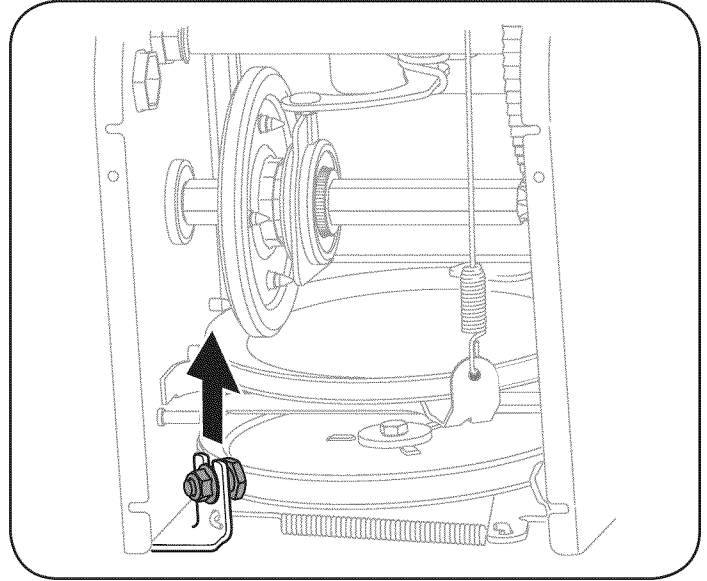

Figure 30
- Loosen and remove the shoulder screw which acts as a belt keeper. Refer to Figure 30.